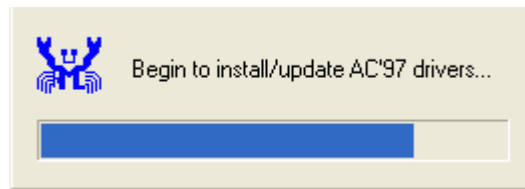

Figure 6-28: AC'97 Driver Installation
Step 7: The driver installation begins. See Figure 6-28.